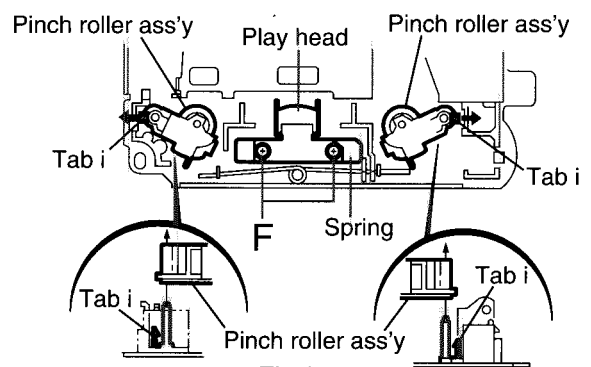

Fig.9
(See Fig.9 and 10 )
**■ Removing the play head (See Fig.9)**
**■ Removing the pinch roller ass'y (See Fig.9)**